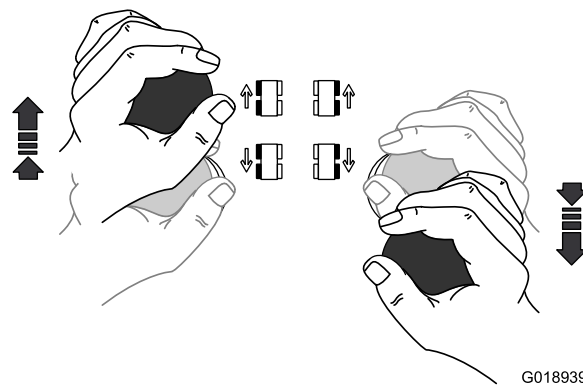

Figure 41
- To turn the machine **right**, grasp the both traction-control levers with your hands and push the left, traction-control lever forward, and pull the right, traction-control lever backward (Figure 41).